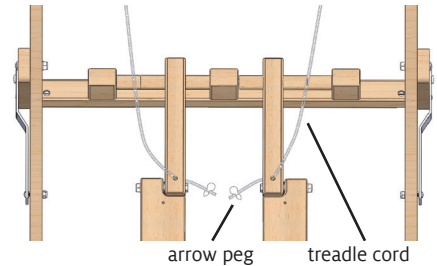

FIGURE 4: INSTALL TREADLE CORDS
4. Push an arrow peg into the first full loop of a treadle cord (Figure 4). From the underside of the treadle extension, insert the cord up through the hole. Repeat with the other treadle extension. Set the stand upright.